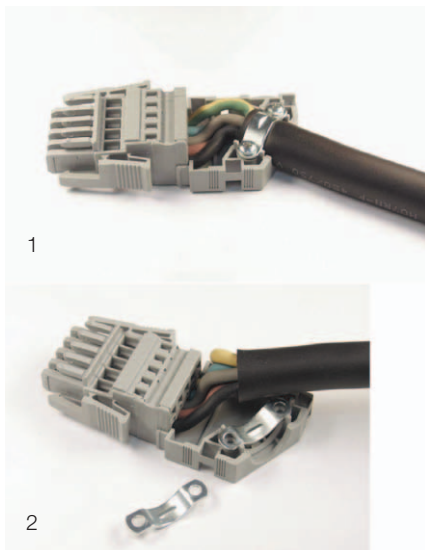

Fig. 81: Connector with strain relief housing
- Guide the conductors in the strain relief housing, as shown in fig. 81, and secure the sheathed flexible cable to the strain relief housing with a cable clamp.
To ensure adequate strain relief even with cables with a diameter of  $< 12$  mm, it is necessary to install a second cable clamp underneath the cable (fig. 81, item 2).